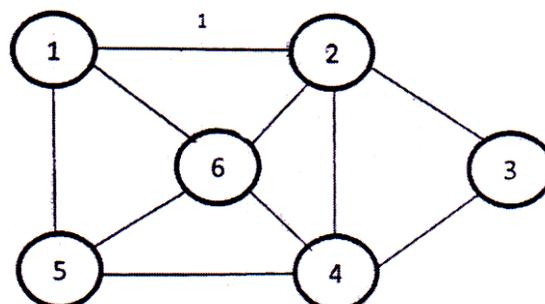

Fig. 3
- Q8) a) Find out Minimum spanning Tree of the following graph (figure 3) using Kruskal's algorithm. [6]